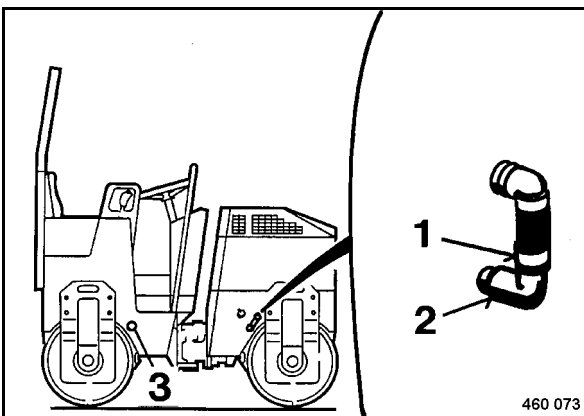

Fig. 111
- Pull the caps 3 (Fig. 111) off both sprinkler tubes.
- Loosen the hose clamps (2) and pull the hoses of the sprinkler tubes.
- Pull the sprinkler tubes (3) out and flush them thoroughly.